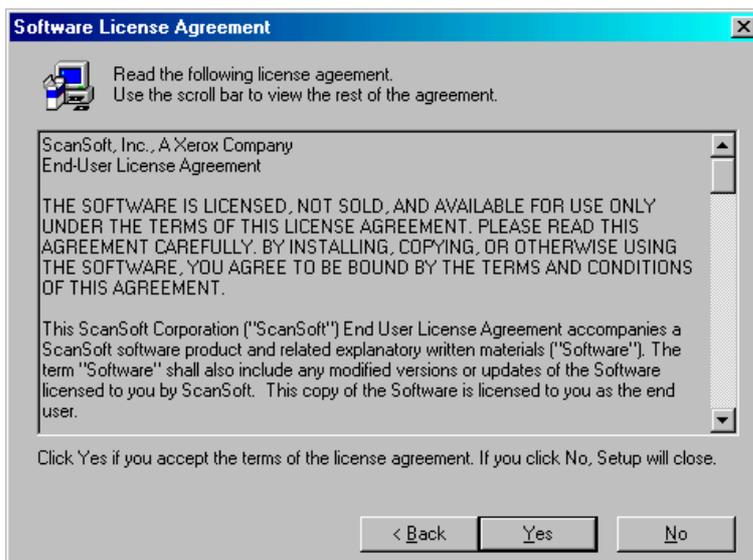

Figure 16: Installing TextBridge Classic
4. Click on 'Next'. Figure 16 will appear.